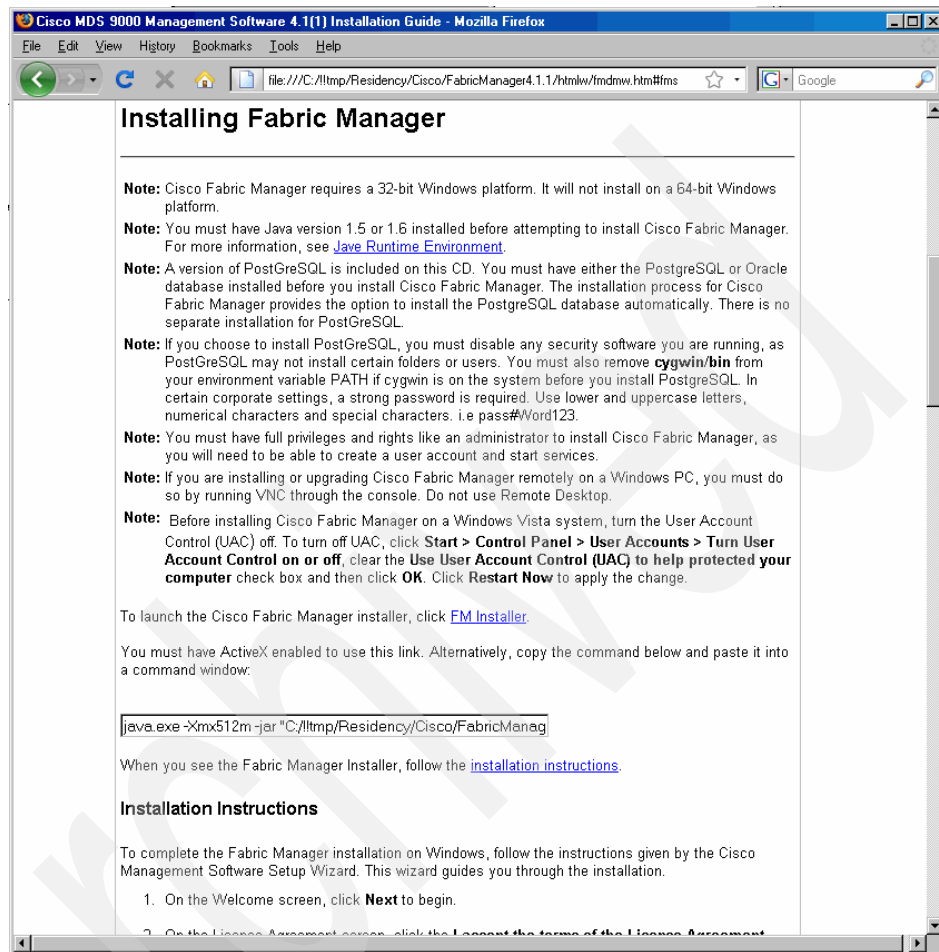

Figure 4-8 Installing Fabric Manager
3. Next select **Fabric Manager Installer**, as shown in Figure 4-8.